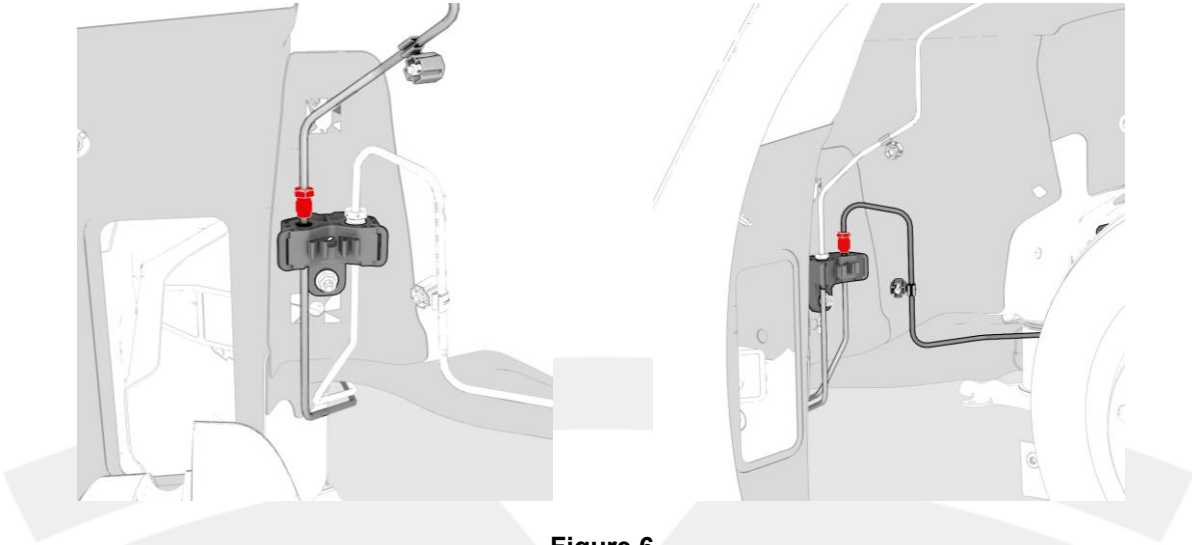

Figure 6
10. Insert the LH and RH to sill brake lines into the junction block, and then use a crowfoot extension to install the brake line tubes nut (12 mm, Torque 16 Nm) into the junction block (Figure 6).